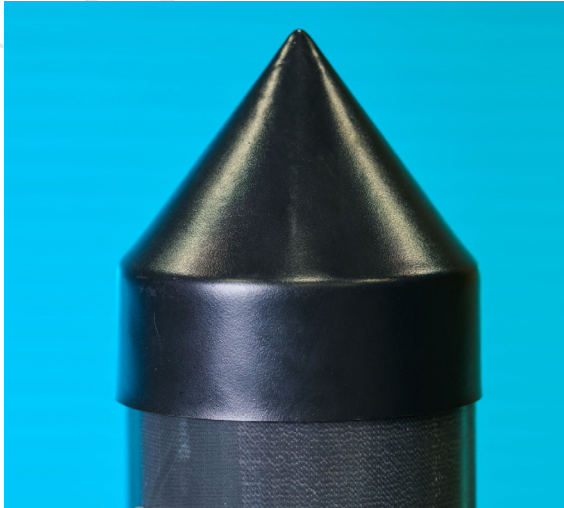

FIG. 8.5
- d. For non-structural connections, such as cap, base plate, grounding attachments, etc., galvanized self-tapping screws may be recommended and/or supplied with the pole. Some examples are shown in Figures 8.5 and 8.6.